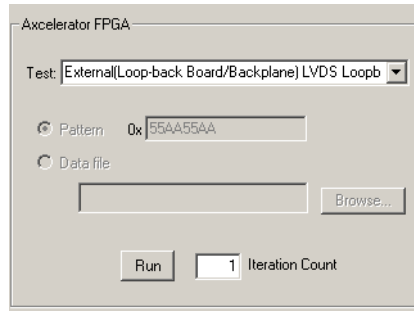

Figure 2-14. Running the External LoopBack Test
1. From the Test selection bar menu, select the External Loop-back Board/Backplane LVDS Loopback. See Figure 2-14.